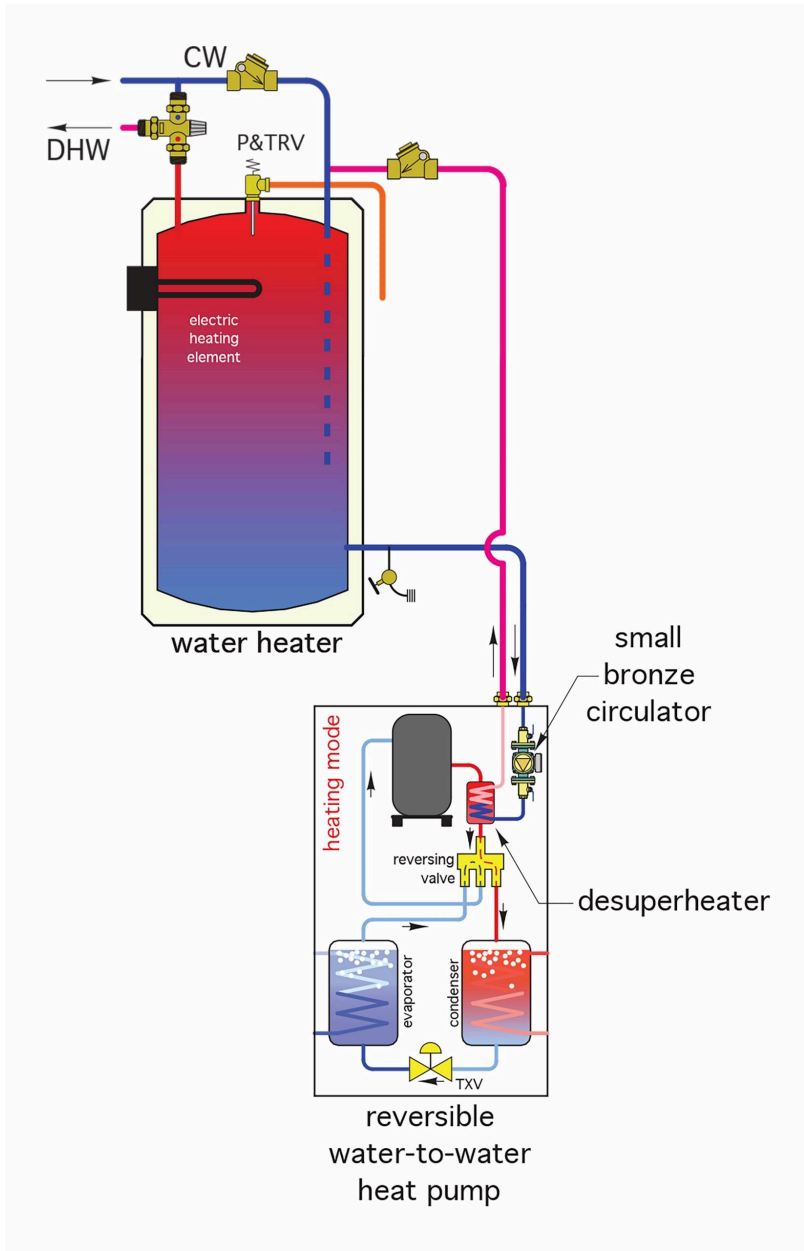

Figure 3 Heating domestic water using “reject” heat
- Figure 3 Two pipes horizontally in trench © Caleffi Hydronic Solutions (<https://www.caleffi.com/usa/en-us>). Used with permission.
Consequently, reversible heat pumps used in residential buildings are mainly of the air-to-air type. Regardless of the type of system used, the heat that is rejected by the system in its cooling mode can be diverted and used to heat domestic hot water, as shown in Figure 3 below.